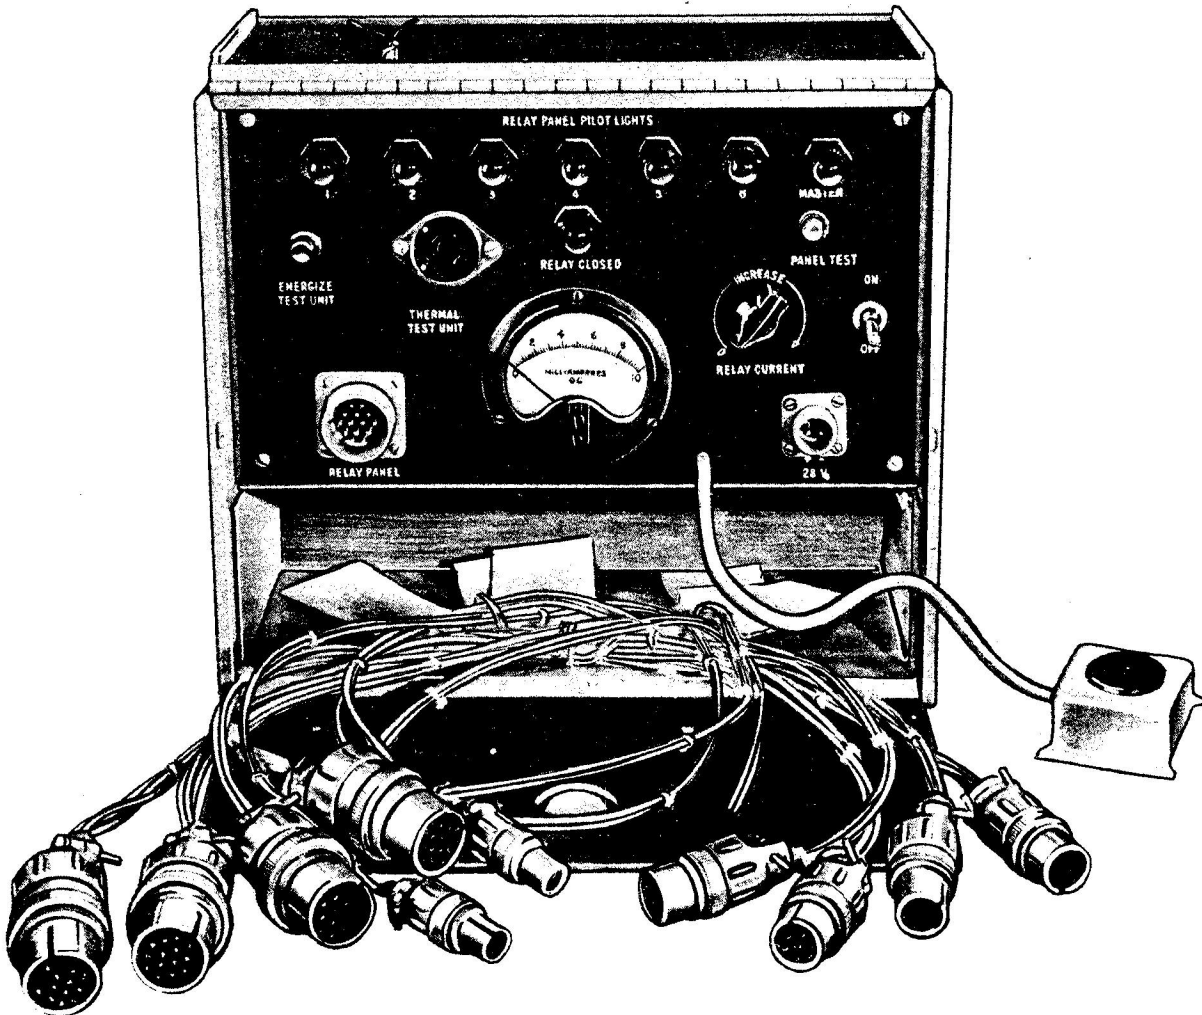

Figure 5-1 Fire Detection System Tester, Part No. 48D8129
5-2. The following tests can be made with the Fire Detection System Tester, Part No. 48D8129 and Detector Circuit Test Plug referred to in paragraph 4-2. (See figure 5-1.)
a. Connect Fire Detection System Tester to 22.5 volt power supply. (See figure 5-1.)